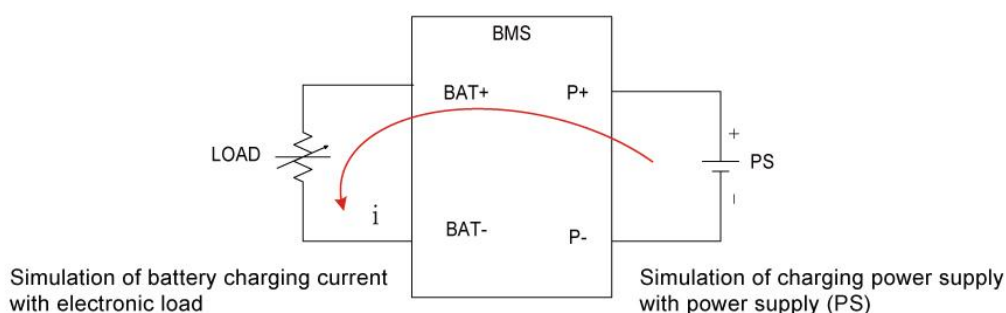

Figure 2.5 Equivalent simulation of BMS charging
The power supply (PS) & LOAD connection and test procedures are shown in Figure 2.5.